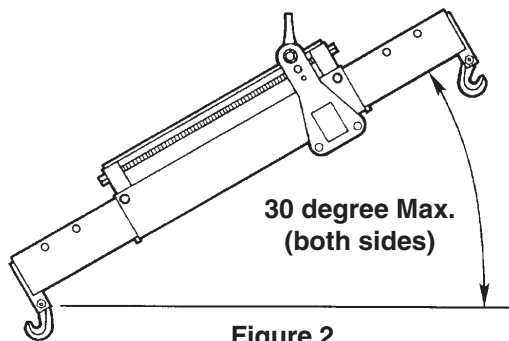
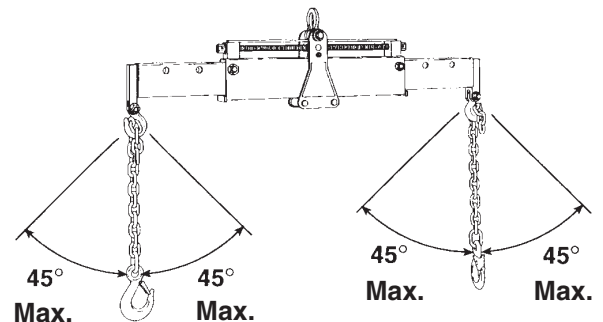

Figure 2
Figure 3
Do not attempt to lift a load that exceeds the maximum capacity of 6,000 lbs. / 2,720 kg. Overloaded equipment can fail and cause personal injury. To ensure the load bearing chains are not stressed beyond their capacities, do not adjust the load tilter to an angle greater than 30 degrees (see Figure 2), and do not spread the load bearing chains more than a total of 90 degrees for both chains (see Figure 3).
- Do not adjust the load tilter to an angle greater than 30 degrees. See Figure 2
- Do not spread the load bearing chains more than a total of 90 degrees for both chains. See Figure 3